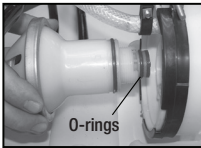
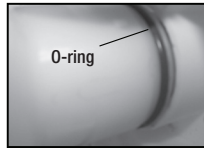
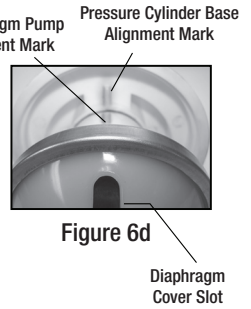

Figure 6a
Figure 6b
Figure 6d
- 8) Apply Petroleum jelly to 2 diaphragm pump o-rings (Fig. 6a). Thread diaphragm pump assembly into pressure chamber base, making sure the o-ring seats inside the pressure chamber base (Fig. 6b-6c). Align the diaphragm pump alignment mark with the pressure cylinder base alignment mark (fig.6d).